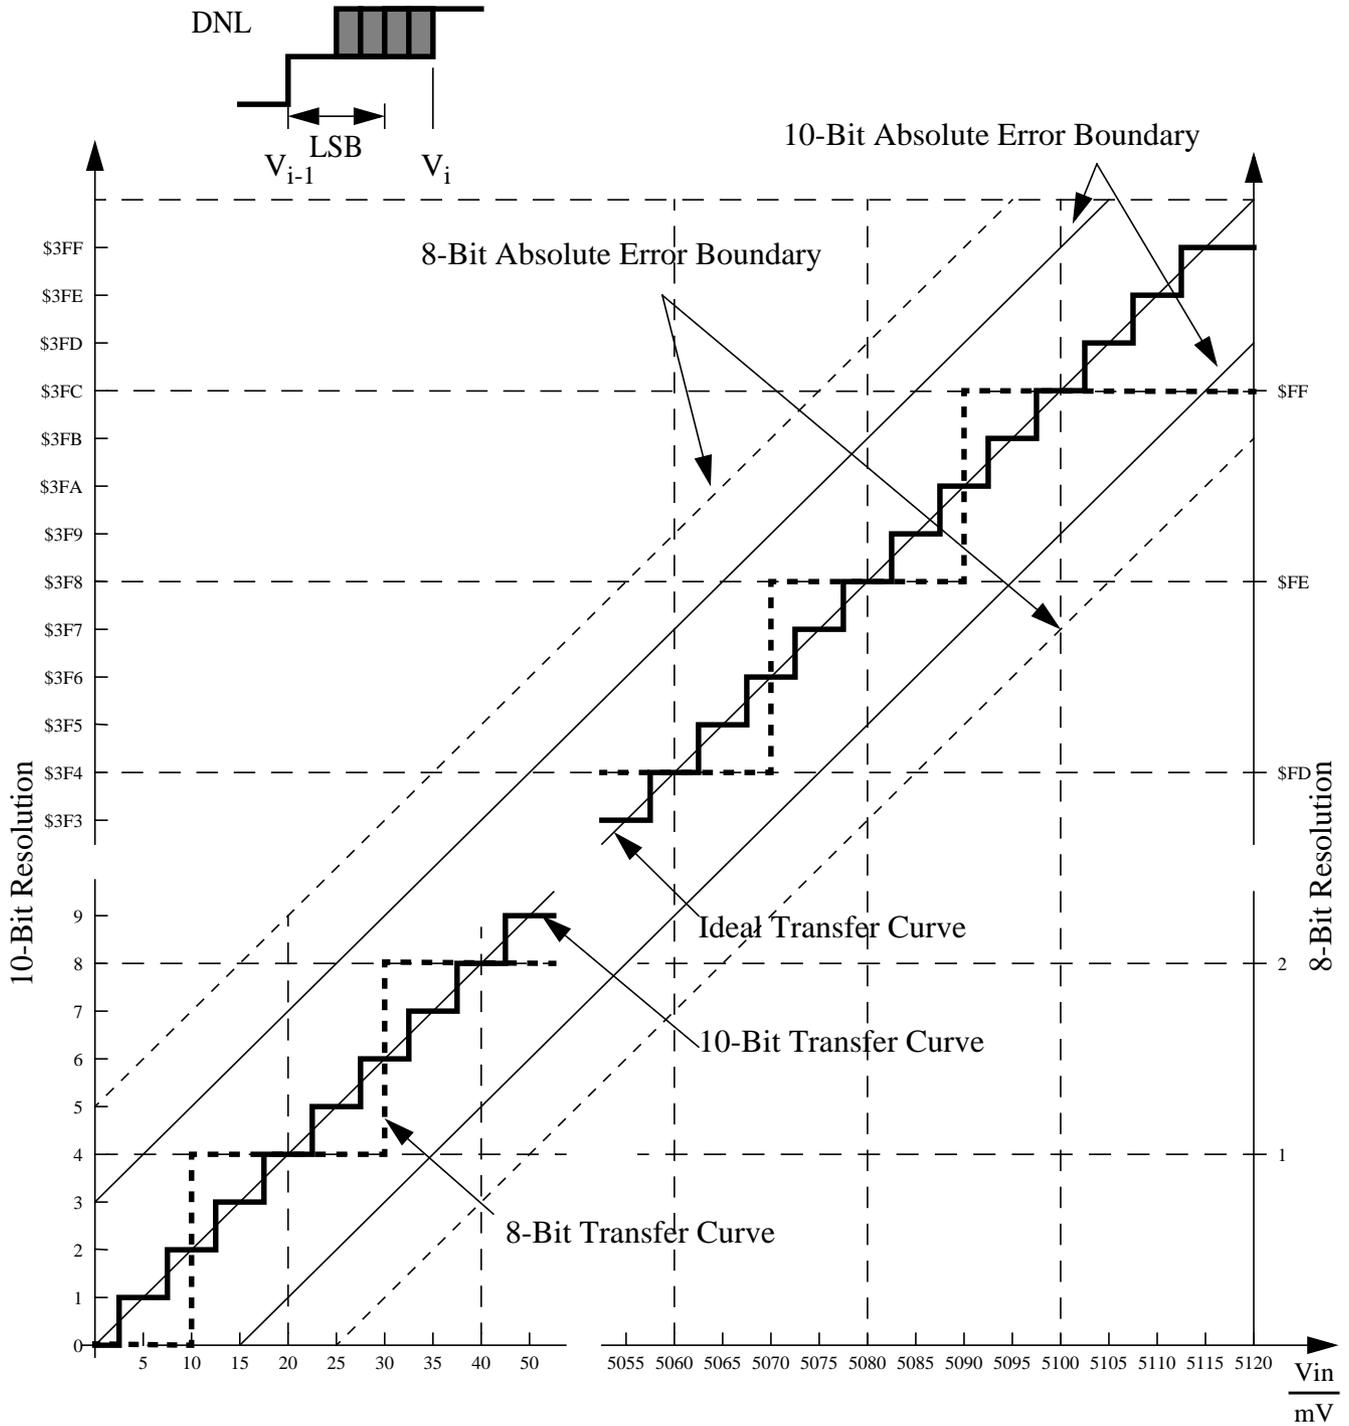

Figure A-1 ATD Accuracy Definitions
For the following definitions see also **Figure A-1**.
**NOTE:** Figure A-1 shows only definitions, for specification values refer to Table A-13.
6. Monitors  $V_{DD}$ , active only in Full Performance Mode. MCU is monitored by the POR in RPM (see **Figure A-1**)